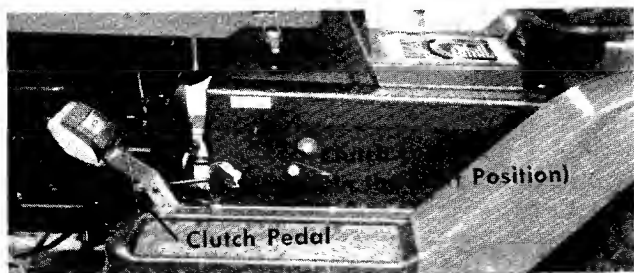

FIGURE 9. LEFT HAND CONTROLS
- d. **Brake Lock.** The brake lock is located on the right hand side of the mower. To lock the brake, depress the brake pedal and lift up the lock button. The pedal will stay depressed. To release, depress the pedal. See figure 9.
- e. **Clutch Pedal.** The clutch pedal is used to disengage the drive mechanism. Depressing the clutch pedal at any time will reduce mower speed. If depressed all the way, it will stop the mower. See figure 9.
- f. **Clutch Lockout.** When the clutch pedal is depressed all the way it can be locked by placing the clutch lockout in the START position as shown in figure 9. The clutch locknut must be in this position before the engine will start.
Step 2. Place the clutch lockout in the START position. See figure 9.